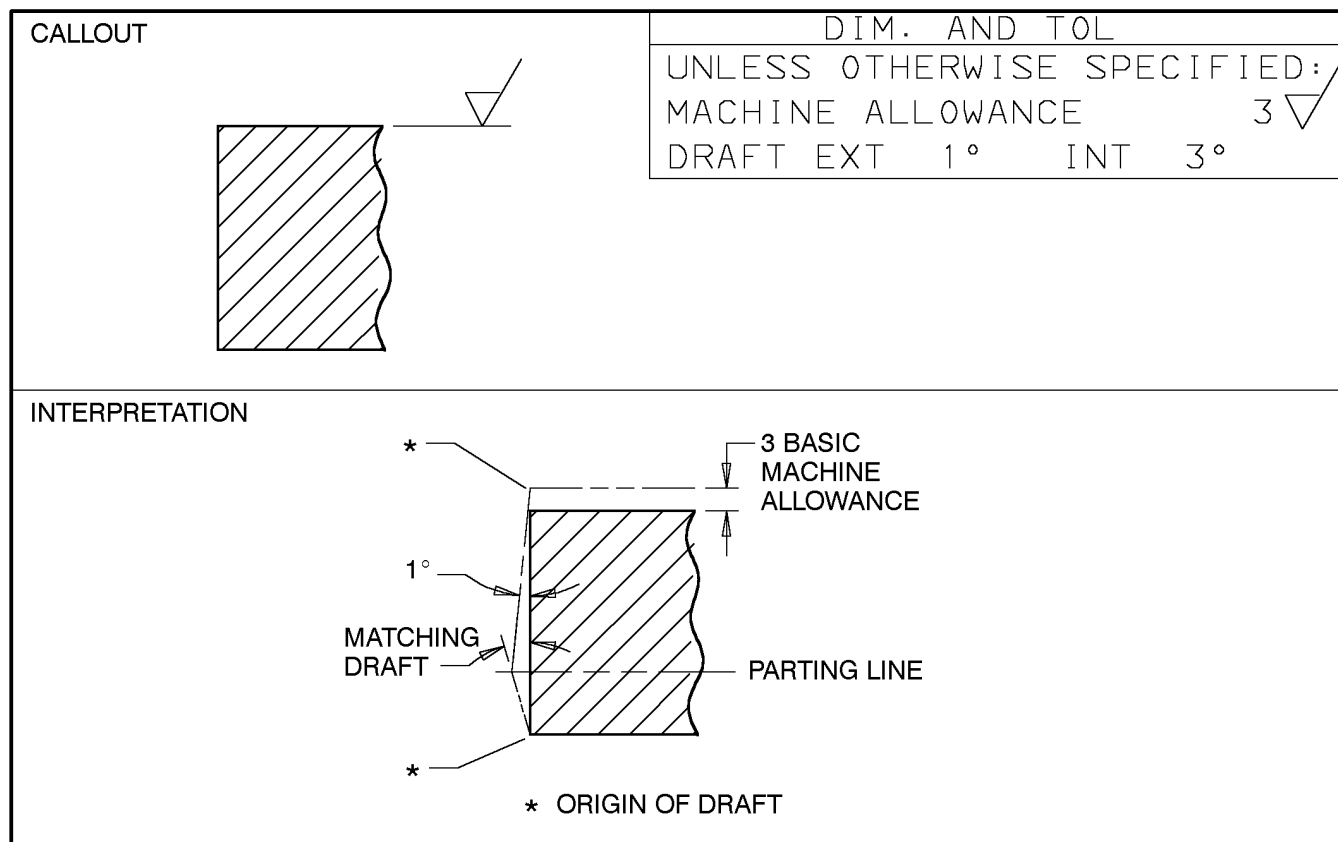

Figure 26 - Matching Draft - Unequal Length - Draft not Shown Pictorially
**11.18 Matching Draft** - Where draft remains on the finished part, and the casting supplier elects to locate the parting line between nondrafted surfaces, on a plane other than through the center, as illustrated in Figure 26, the draft angle shown in the **DIM AND TOL** block must be applied to the long portion of the draft and additional draft (matching draft) applied to the short portion to match draft at the parting line, unless otherwise specified on the drawing.
**11.18.1** Figure 26 illustrates matching draft where draft with unequal lengths remains on the finished part. The callout shows a machining required symbol on the top horizontal surface and 3 mm basic machine allowance, 1 degree external, and 3 degree internal draft in the **DIM AND TOL** block.